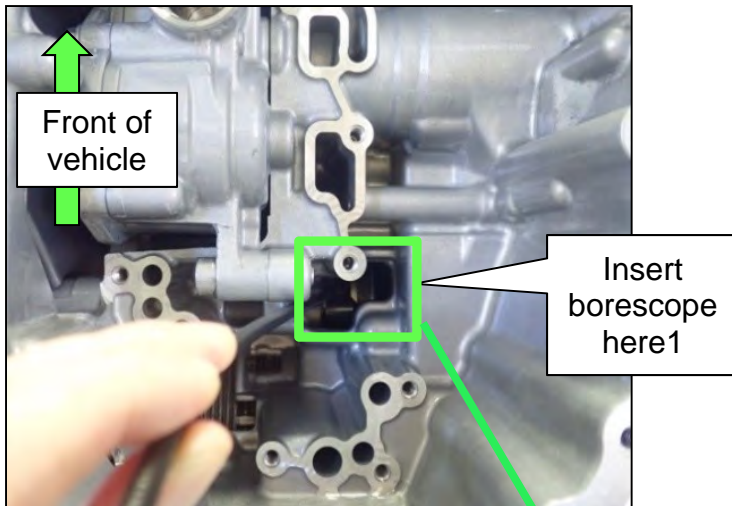

Figure 30
c. Insert the borescope where shown in Figure 30 as follows: